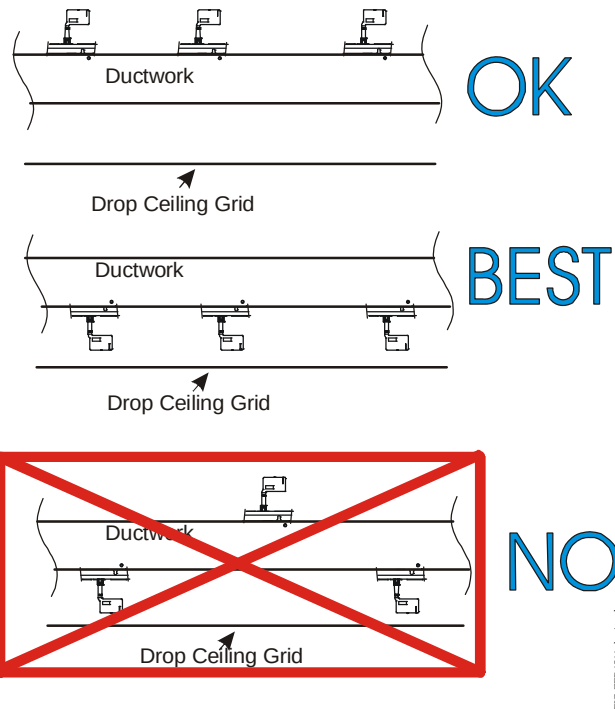

Figure 2: Mount ZFR1811 Routers/Repeaters in the Same Horizontal Plane Below Pipes, Duct Work, or Metal Obstructions
- Mount all ZFR1811 Routers/Repeaters and the antenna of the ZFR1810 Coordinator in the same horizontal plane where possible, preferably just above the ceiling panels. See Figure 2.